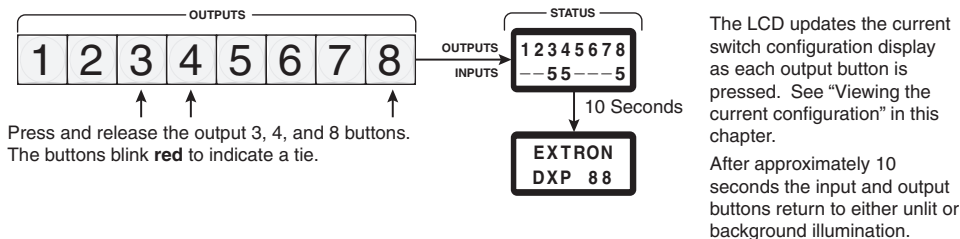

Figure 3-9 — Select outputs to create ties in quick switch mode
2. Press and release the output 3, output 4, and output 8 buttons (figure 3-9). The output 3, output 4, and output 8 buttons light red as they are pressed to indicate a created tie. The current configuration is now defined as input 5 tied to output 3, output 4, and output 8.